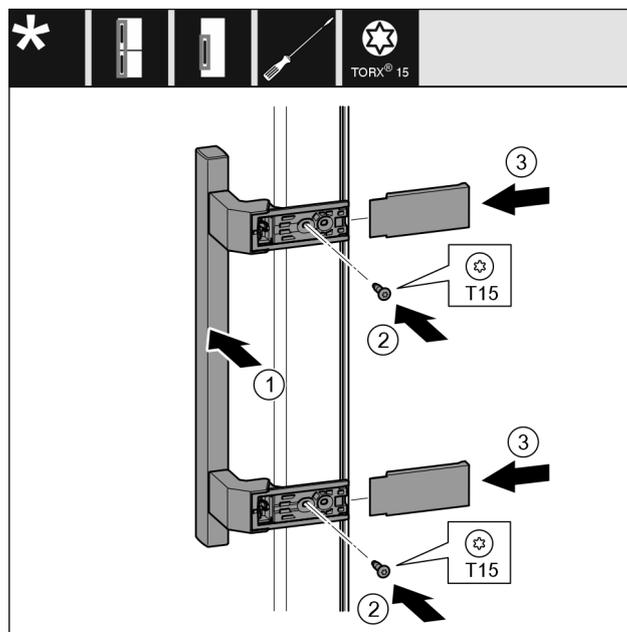

Fig. 55
- ▶ Place the handle Fig. 55 (1) on the opposite side.
- ▶ Tighten screws Fig. 55 (2) with screwdriver.
- ▶ Place the covers Fig. 55 (3) on the side and push them on.